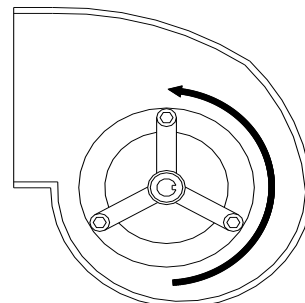

FIGURE 5
- Before re-assembling the electrical box cover, momentarily turn unit on and off via the remote start/stop switch. Note the rotation of the blower wheel. Proper rotation is shown in **Figure 5**.